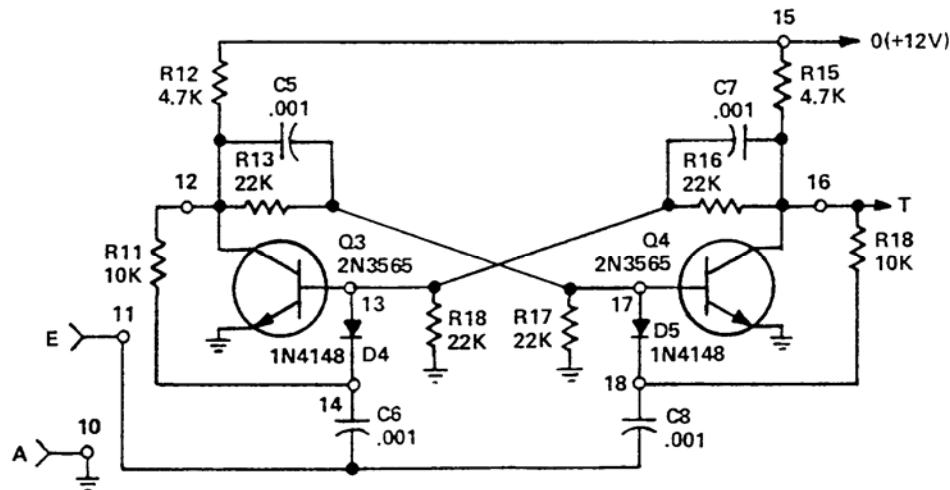

Figure F-2. Bistable Multivibrator
(1) Troubleshooting the bistable MV will be slightly different than the astable because the bistable requires an input signal to operate. However, once an input signal has been applied, the principles involved are basically the same.
(2) Refer to Figure F-2. If D4 or D5 were to open, there would be no switching of states and no output pulses would be produced. Shorting D4 or D5 would have an effect on the switching time between the states and cause the output pulses to be more rounded on the corners.